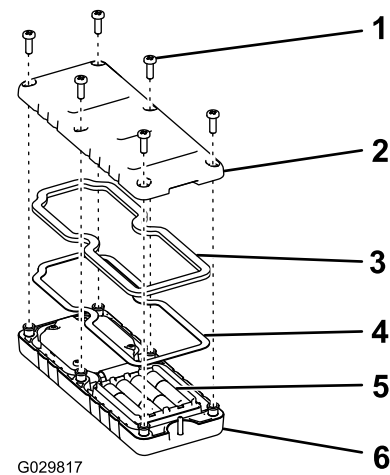

Figure 40
5. Replace the cover and secure it with the 6 screws removed previously (Figure 40) and torque them to 1.5 to 1.7 N·m (13 to 15 in-lb).
1. Remove the 6 screws from the back of the remote and remove the cover (Figure 40).